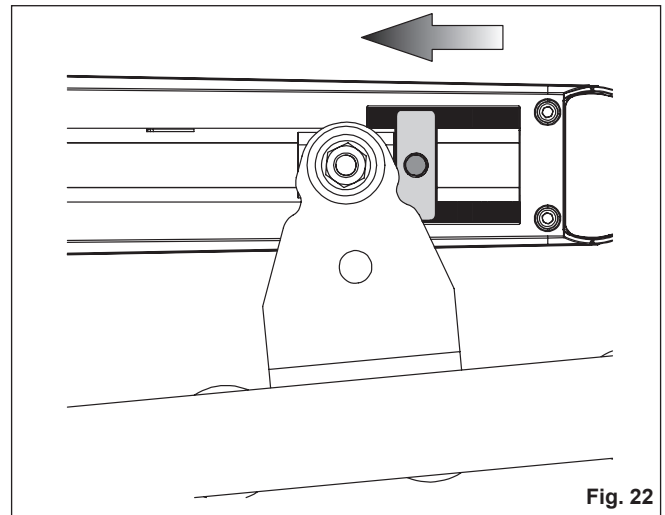

Fig. 22
4. Move the mechanical stop until it is close to the front fitting, as indicated in Figure 22.